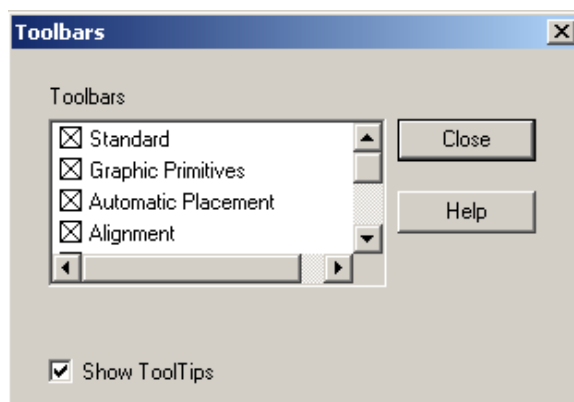

Figure 9-2 Toolbars dialog
1. Select **View > Toolbars**. The Toolbars dialog displays. See Figure 9-2.